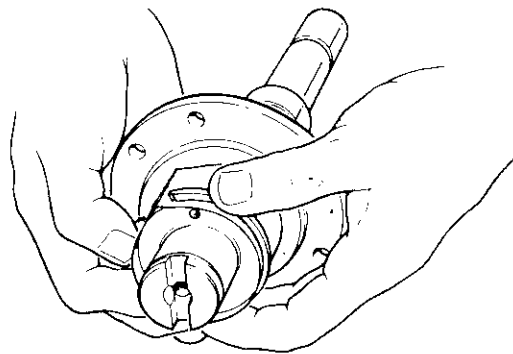

Fig. 14 Piston ring fitting procedure
5. Where a loading tool is not available use a thin metal strip, long enough to lay along the shaft above the grooves. Expand each ring just sufficiently to allow it to be placed in its approximate position over the strip. Gently withdraw the strip and locate the rings in their respective grooves. (see Fig. 14).